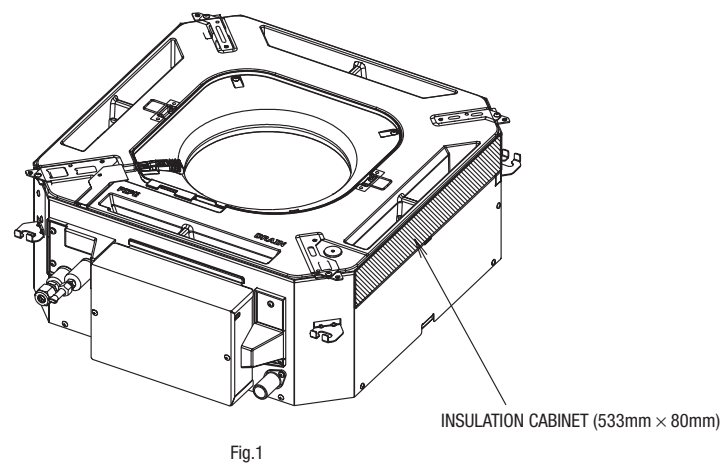

Fig.1
② Attaching INSULATION CABINET
(1) As shown in the Fig.1, 2 and Fig.3, attach the INSULATION CABINET.